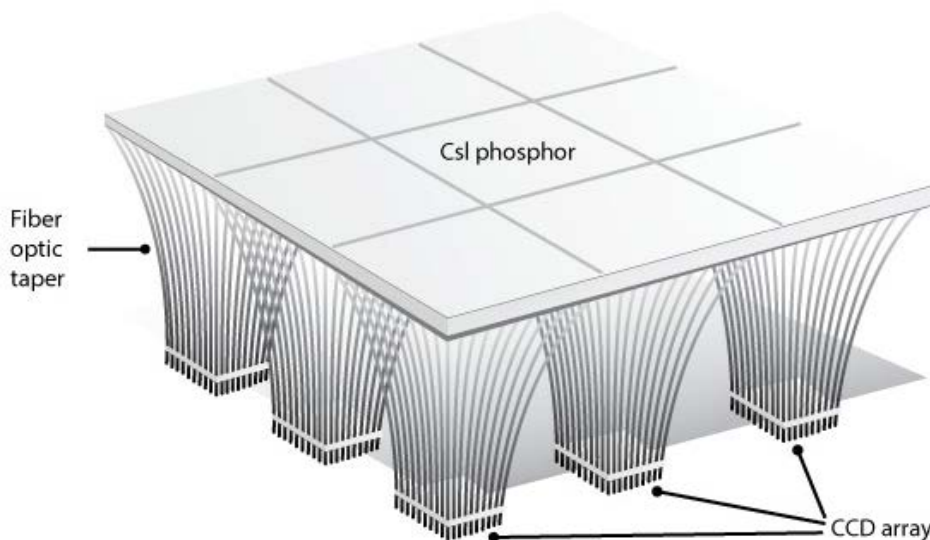

Figure 1-5. CCD array with fiber-optic bundles illustration.
CCD array is an example of an indirect capture device. In this type of image receptor, CCDs (fig. 1-5) are tiled (connected together) to accept light from an X-ray beam as they interact with cesium iodide. The captured light is then transmitted, via fiber-optic bundles, to the CCD array, resulting in good image spatial resolution.
**NOTE:** Notice the acronym CsI, on figure 1-5. It refers to cesium iodide.